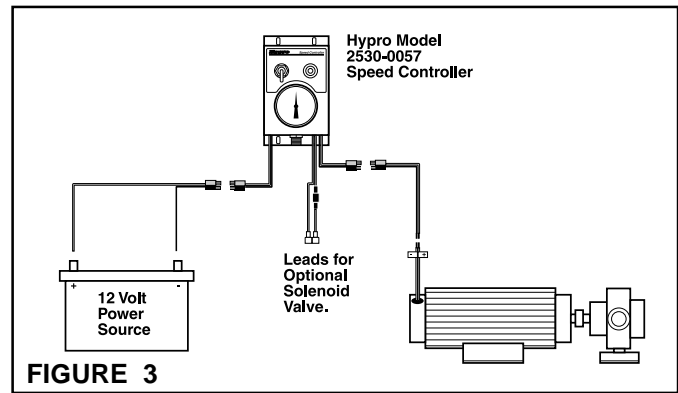

FIGURE 3
See Figure 3.
5. Connect the Controller Battery Leads to the Power Leads from the battery. Connecting Red (+) to Red (+) and Black (-) to Black (-) (See Figures 3 and 4).
8. Connect the Controller Motor Leads to the Power Leads from the motor. Connecting Red (+) to Red (+) and Black (-) to Black (-) (See Figures 3 and 4).